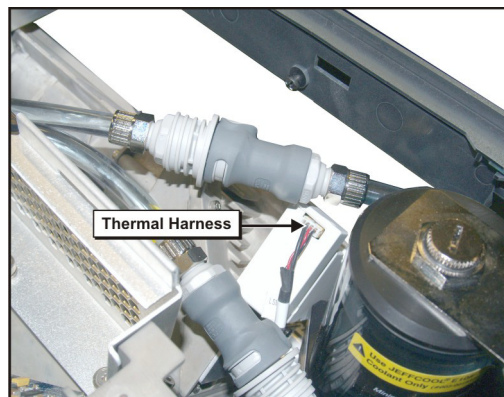

Figure 5-65 Disconnect Thermal Harness
5. Disconnect the thermal harness from the light sensor (**Figure 5-65**).